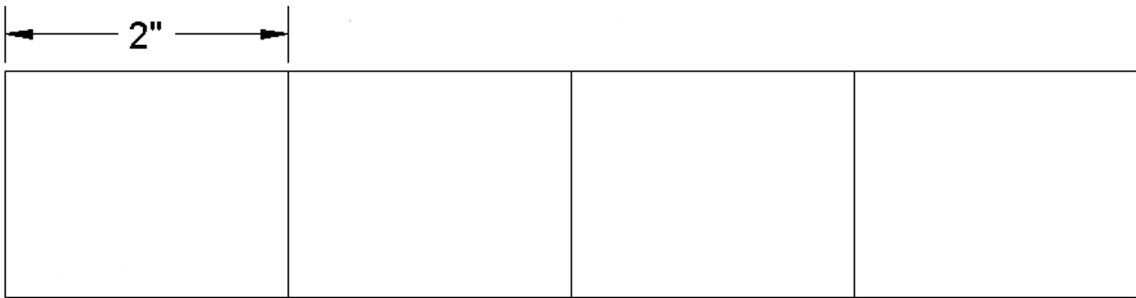

FIGURE 6.9 First step to create continuous dimensions.
The next step is to draw one horizontal linear dimension, as you already have done (it could have easily been a vertical line, too, if the rectangles were stacked vertically). Locate it about where you would like the entire string to go, as seen in Fig. 6.9.
Step 1. Once you have the squares and one linear dimension, as seen in Fig. 6.9, start up the continuous command via any of the preceding methods.
The baseline dimension, as mentioned before, is very similar in principle to the continuous dimension. The goal is to make a neat stack of evenly spaced dimensions that all start at one point (the base in baseline). To begin, erase the previous continuous dimensions (leaving the squares) and once again draw one linear (horizontal) dimension, as seen before in Fig. 6.9.